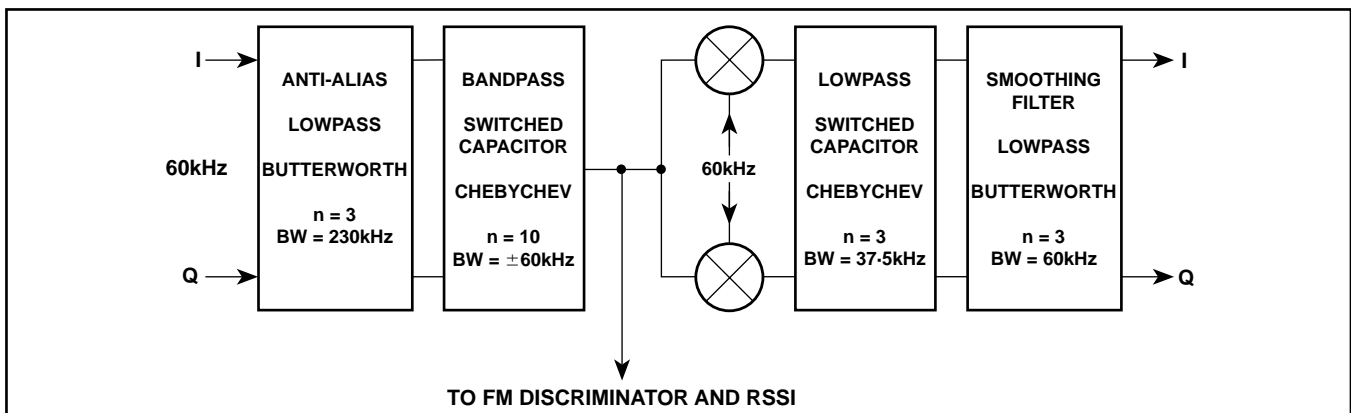

Figure 4 - Receive path filters
4. These filter characteristics are for the 60kHz bandpass filter. This provides all the filtering in FM mode. There is additional filtering in I/Q mode provided by the baseband low pass filters. Details are shown in Figure 4.
The receive path filtering is shown in more detail in Figure 4. The inputs to the MGCM01 are I and Q signals at an IF of 60 kHz. These can be generated by a quadrature demodulator circuit such as the Zarlink Semiconductor MGCR01 (Saturn) AGC amplifier and demodulator. This device is normally used for mixing direct to baseband but can also mix down to low IF quadrature signals. The I and Q signals are passed through anti-alias filters to prevent spurious responses in the subsequent switched capacitor filter. The anti-alias filter is a third order Butterworth with a 230kHz cutoff. The I and Q signals are then combined and passed through a switched capacitor bandpass filter. This filter is a tenth order Chebychev. The advantage of using a switched capacitor filter is that it gives very stable performance and no calibration is required. The circuit also provides rejection of the image frequency following the down conversion to 60kHz.
Following the bandpass filter the signal is mixed down to baseband I and Q and is output from differential outputs. There is additional baseband filtering to remove spurious signals from the down converters and clock breakthrough from the switched capacitor filters. Further detail of the filtering in the the MGCM01 receive path is shown in Figure 4. The baseband outputs can be fed directly into A to D converters in a baseband circuit.